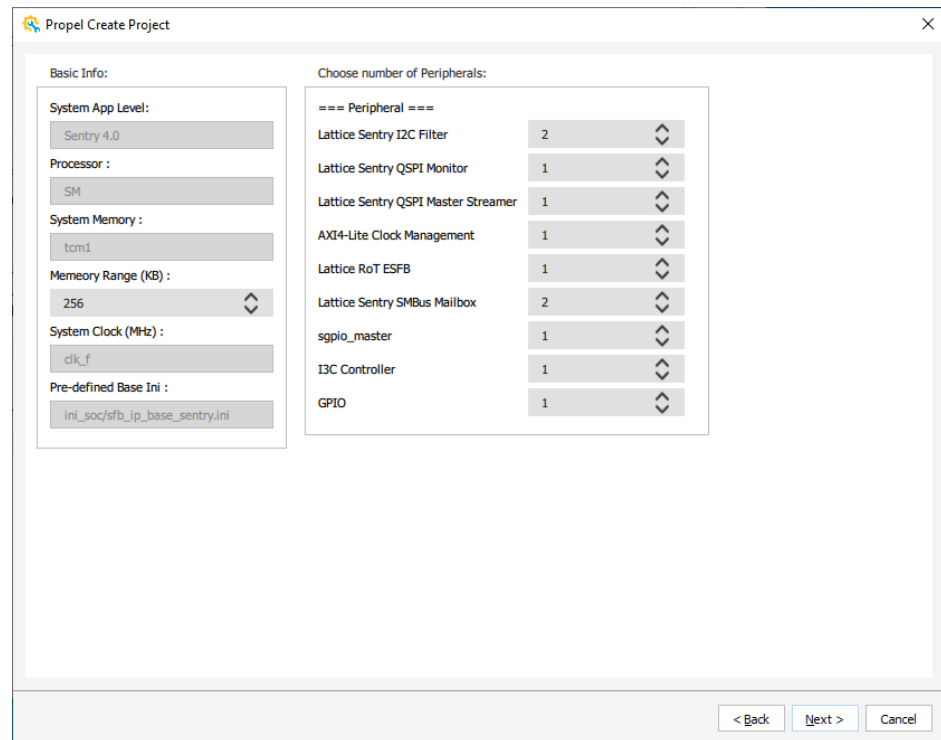

Figure 4.6. Create SoC Project – Select Peripherals
8. Choose number of Peripherals, as shown in Figure 4.6. Then, click **Next**.